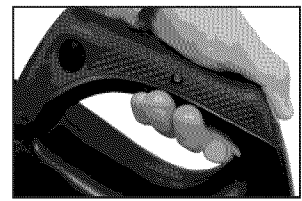

Figure 18 - Depress lockout button and squeeze trigger
3. While grasping the rear handle, with the other hand, depress the trigger lockout button. (See figure 18)